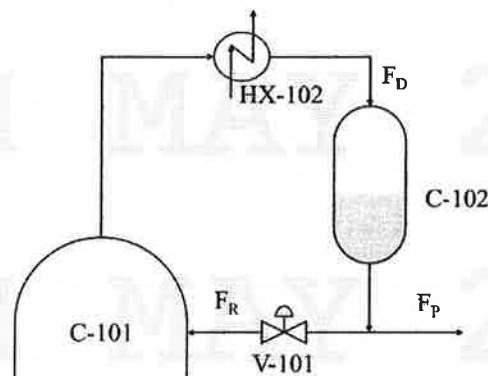

FIGURE 3b Stripping section of a distillation column
- b. An overhead vapor product of column C-101 is cooled down into liquid in heat exchanger (HX-102). The product exits the HX-102 with volumetric flowrate of F_D and enters a reflux drum (C-102). Part of the exit of C-102 is return back to the distillation column with volumetric flowrate of F_R , which controlled by valve V-101 opening of x ($0 =$ fully closed, $1 =$ fully open). The remaining exit of C-102, F_P is sent to the next processes (**FIGURE 3b**).